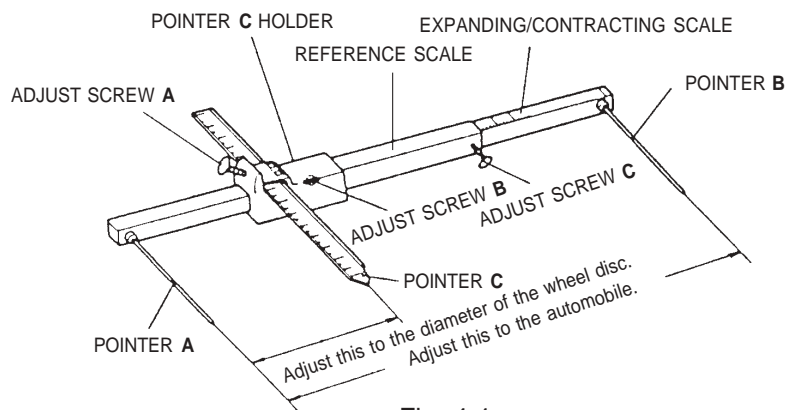

Fig. 4-1
- If there are any deviations, use a tram tracking gauge and measure parts of the body.(Below Fig. 4-1)